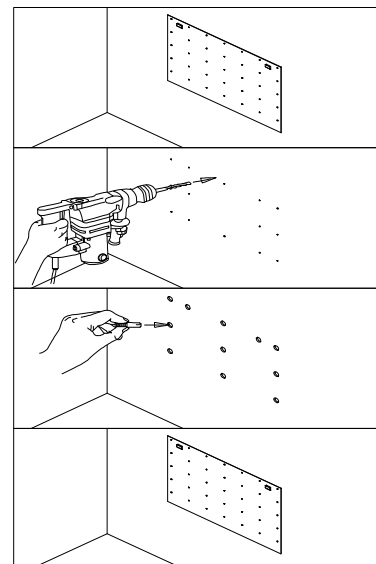

Fig.3
5. Fasten the hanger to the wall. See Figure 3.